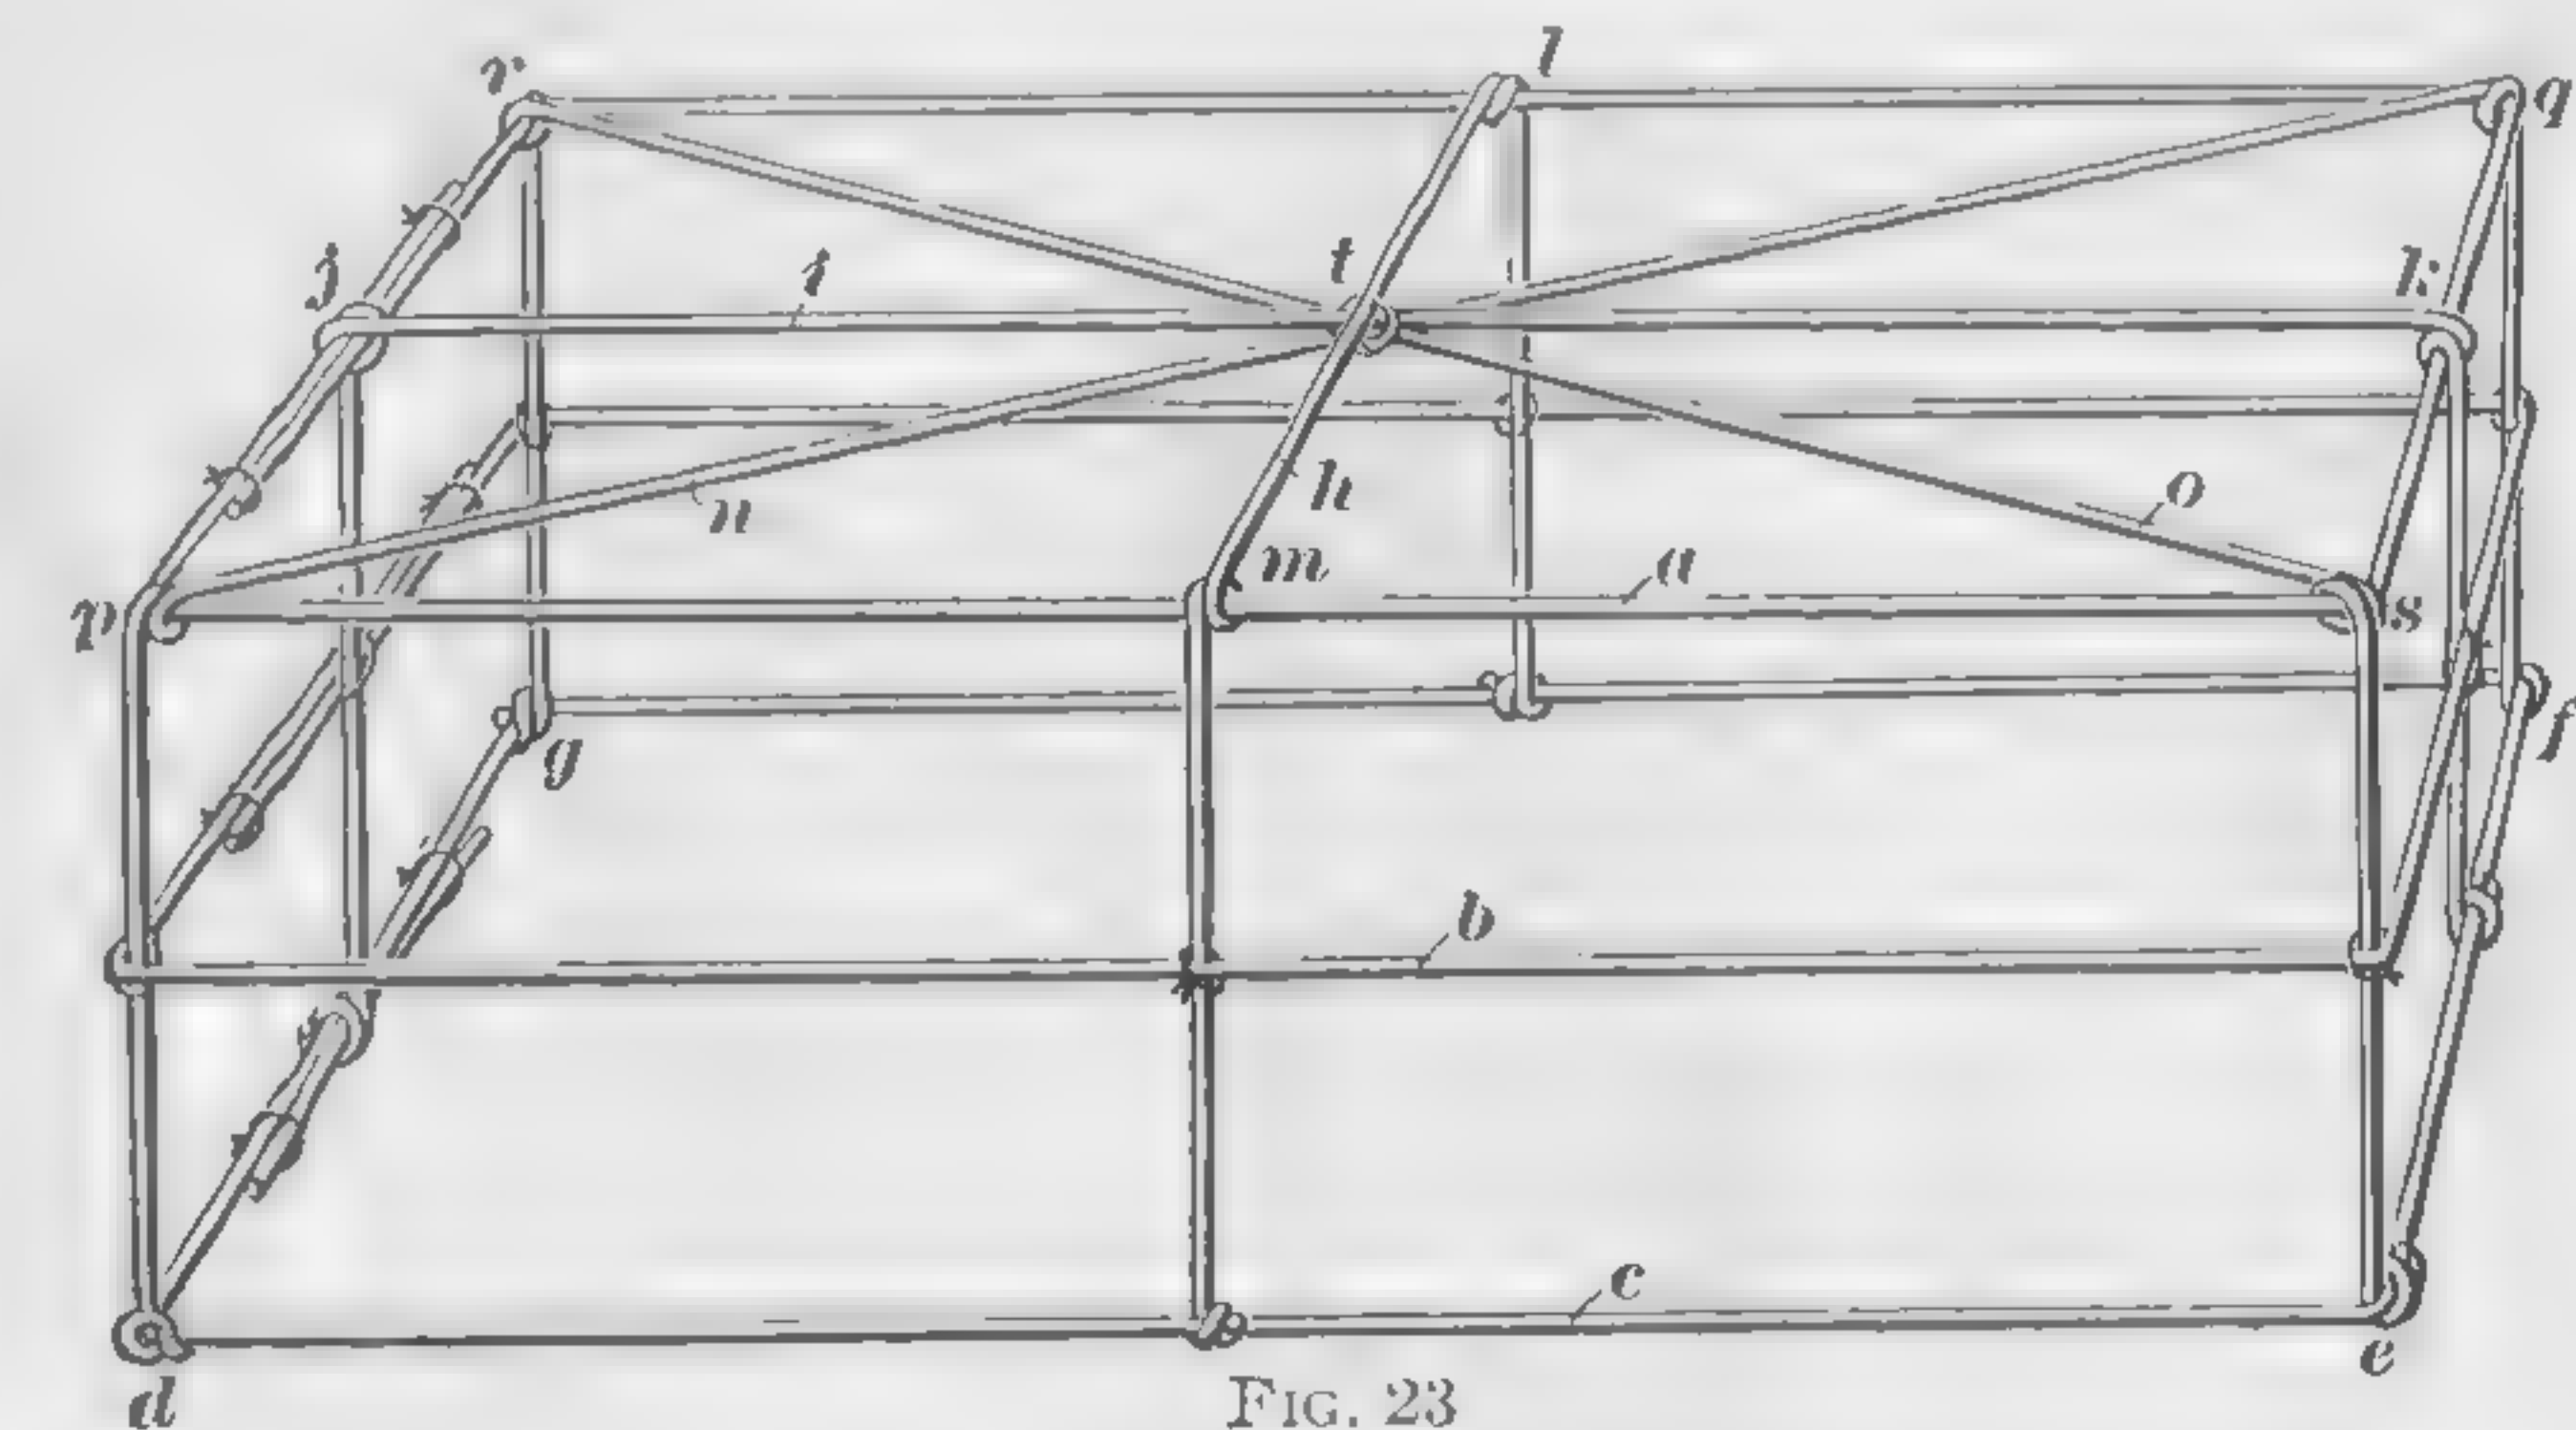

FIG. 23
35. The crown illustrated in Fig. 23 is known as a **square crown**. It is made up of seven wires, and all the bends in these wires are at right angles. The square crown described here is 7 in. square, $2\frac{1}{2}$ in. high, and measures 10 in. across from corner to corner diagonally. The three brace wires *a*, *b*, and *c* form squares measuring 7 in. on a side. To make the square of brace wire *c*, for example, measure off a length of 5 in. and bend it at right angles, forming the bend *d*; measure off three lengths of 7 in. each, and make a bend at each point, forming the bends *e*, *f*, and *g*; and then from *g* measure off 5 in. and cut the wire. Now overlap the two 5-in. ends so that
36. The two support wires *h* and *i*, Fig. 23, are of the same size and shape. To make each, cut off a piece 16 in. long, and bend each end down at a point $4\frac{1}{2}$ in. from the end. The distance between the bends will then be 7 in., or the distance across the crown, and the $4\frac{1}{2}$ -in. ends will be long enough to give a height of $2\frac{1}{2}$ in. to the crown and allow 2-in. ends for making the twists. Take the top brace wire *a* and mark the middle points of the four sides, as *j*, *k*, *l*, and *m*, using as a gauge a strip of paper equal to the length of one side, folded in the middle; and do the same to the bottom brace wire *c*. Then take the support wire *h*, which has been bent as just described, lay it across from *l* to *m*, and twist it around the top brace wire at *l* and *m*, allowing the ends to project straight downwards. Take the
37. The four support wires have now been attached to the top brace wire *a*, Fig. 23, and the eight ends, each $4\frac{1}{2}$ in. long, extend downwards from the brace wire. Take a paper gauge $2\frac{1}{2}$ in. long, measure off the height of the crown on each of these ends, from the points *p*, *m*, *s*, etc., and bend the ends outwards. Then take the brace wire *c*, lay it on these bent support wires with the overlapped ends under those of the wire *a*, and twist the support wires around the lower brace wire *c* at the corners and the middle points of the sides. Cut off these ends close to the wire *c* and press the twists tight with the pliers. Next, take the brace wire *b* and tie it to the support wires along the side crown, exactly half way between the top and bottom brace wires *a* and *c*. This distance can be judged by eye, after a little experience has been gained; otherwise, the points at which the tie wires are to be fastened can be marked by using a paper gauge $1\frac{1}{4}$ in. long and marking the support wires below the points *p*, *m*, *s*, etc. Tie the support wires together at the point *t* and then go over all the tie wires and tighten them. The square crown can be made with 5 yd. of brace wire.